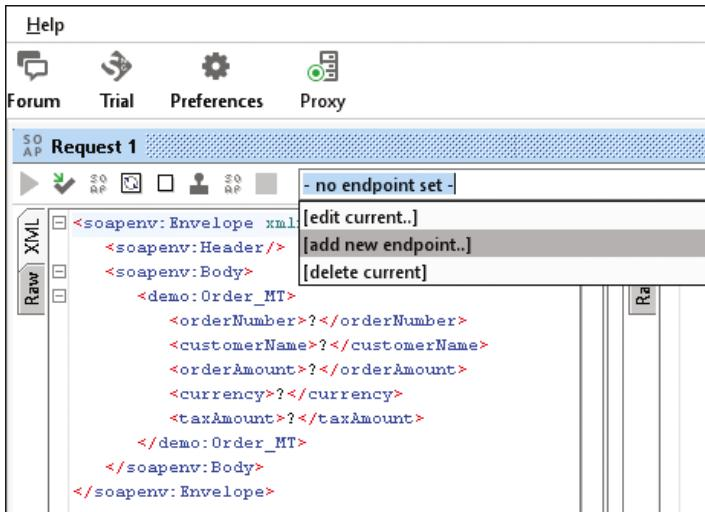

Figure 2.39 Adding a New Endpoint in SoapUI
1. Open SoapUI, and double-click **Request 1** in the expanded tree on the left side of the split screen (see Figure 2.39).
2. To tell SoapUI where to send the message, you need to specify an endpoint. In the dropdown list in the header of the **Request 1** window, select **[add new endpoint...]** (see Figure 2.39).